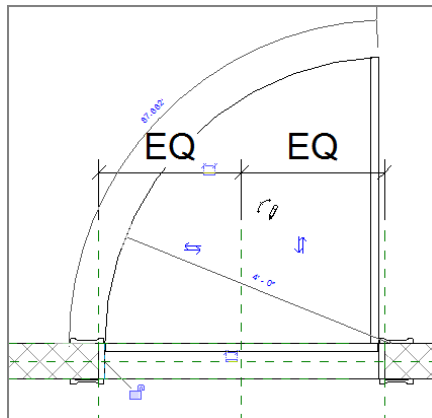

FIGURE 17.28: Drawing the plan swing arc
7. Draw an arc from the left side of the jamb to the top of the symbolic swing, as shown in Figure 17.28. Click Modify.